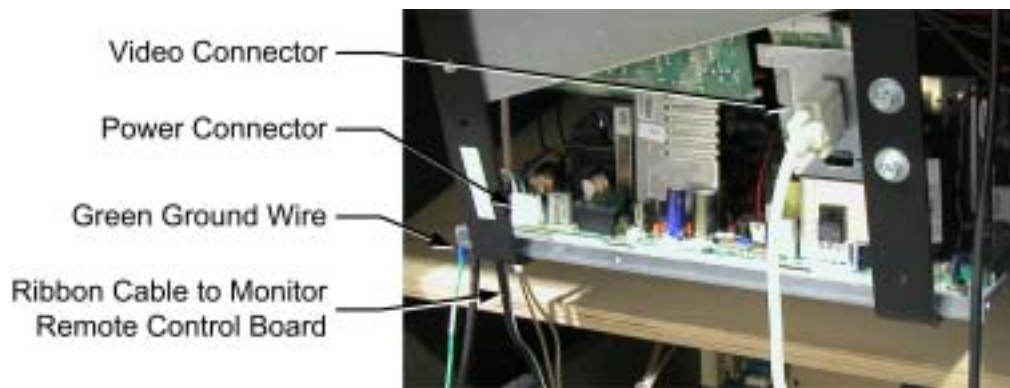

Figure 56. Cable Connections to the Monitor Chassis
2. Refer to Figure 56 and disconnect the following cables:
6. Remove the two (2) #10 x .75 wood screws that secure the monitor bezel to the top of the cabinet and remove the monitor bezel.